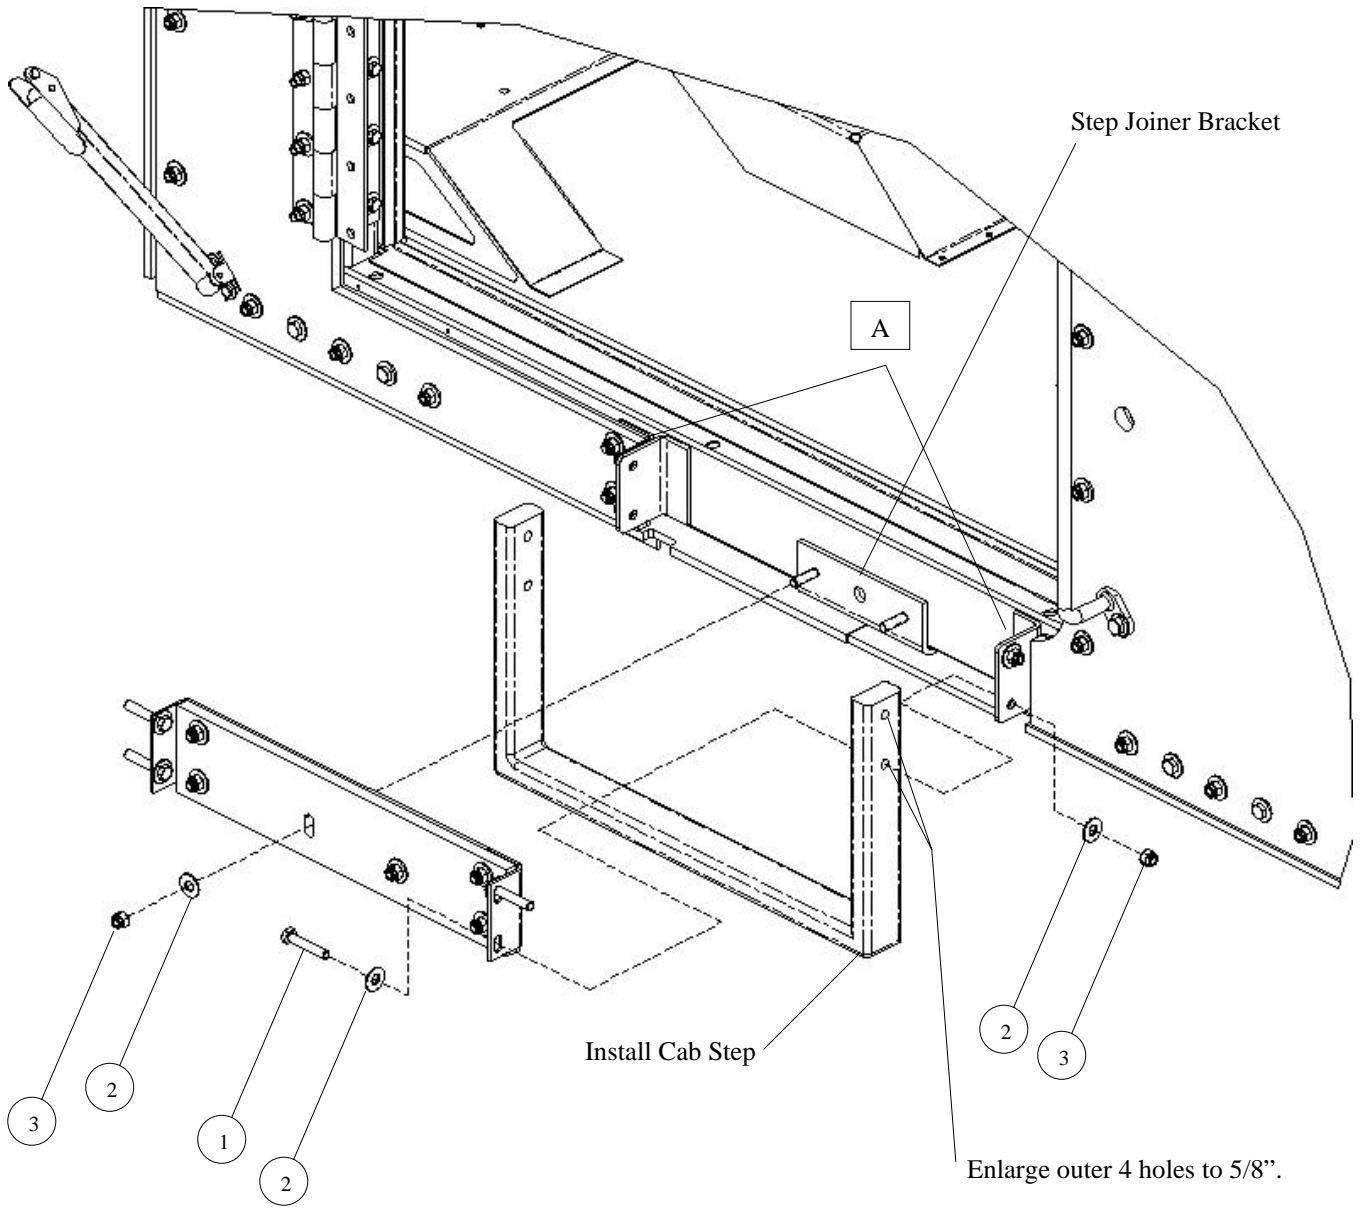

Figure 3-66. Left Step Panel Installation.
2. Install left step panel assembly as follows (see Figure 3-66):
- a. Enlarge outer four holes in cab step to $\varnothing 5/8$ ". This allows the position of the step to be lowered slightly during re-installation for necessary clearance of the new armored door seal. The top edge of step brackets should be trimmed down approximately 1/8 in. along edges marked "A" in Figure 3-66.
- b. Install left step panel assembly into position with original cab step, between welded step brackets on cab frame and against step joiner bracket and secure with four bolts (1), eight flat washers (2), and four locknuts (3). Torque locknuts to 35 lb-ft.
- c. Install two flat washers (2) and locknuts (3) onto studs of step joiner bracket. Torque locknuts to 23 lb-ft. (Be sure to lower the position of the cab step.)